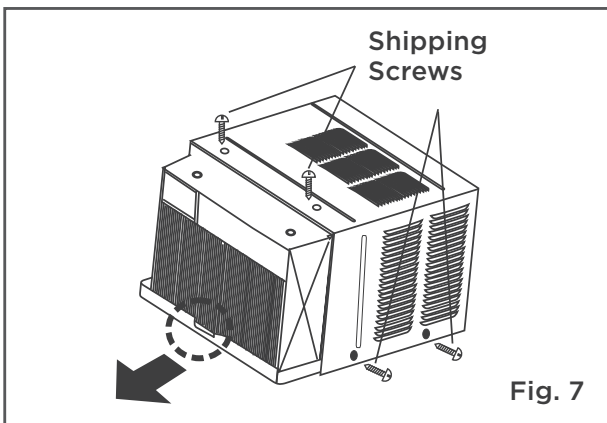

Fig. 7
8. Add two foam inserts to holes in top of cabinet where shipping screws were removed from (see Fig. 7).